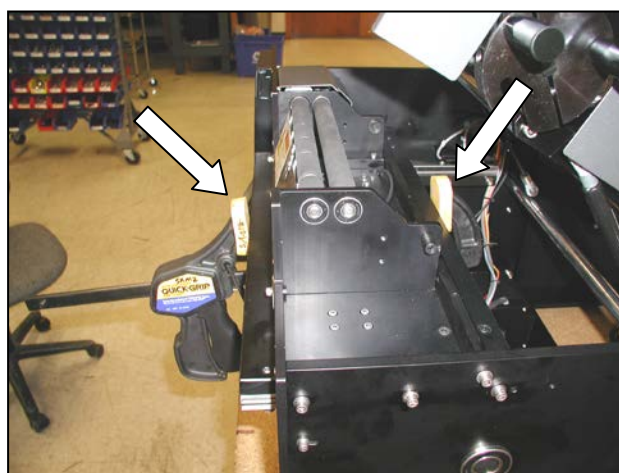

Figure 3-360. Clamping the Pressure Jaw for Setting Sensors
2. Fully slide the pressure bar in, and apply a clamp between the pressure bar and rear surface of the horizontal mounting plate. The clamp should go underneath the horizontal mounting plate as shown in Figure 3-360. This will position the jaw in its sealing location.